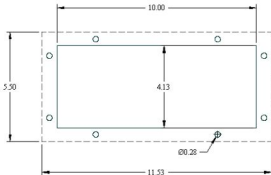

FIGURE 2
2) Remove the speaker trim bezel from the siren unit. Position the trim on the face of the bumper in the appropriate location, and mark the center of the four .280" holes pre-drilled in the trim. Make sure the trim is level or parallel with the bumper. Also mark the inside opening of the trim. See FIGURE 2.